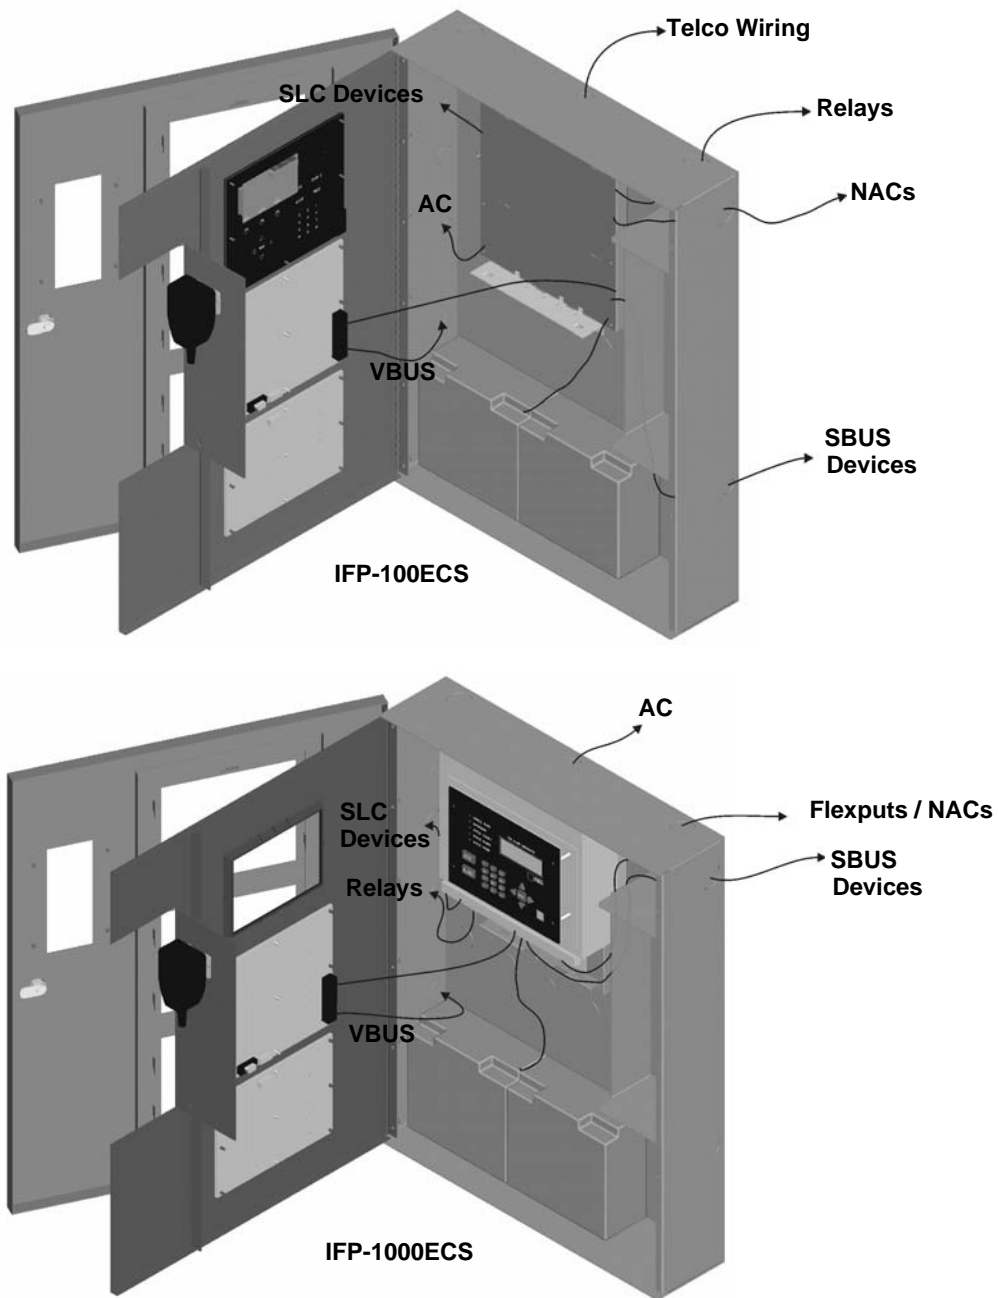
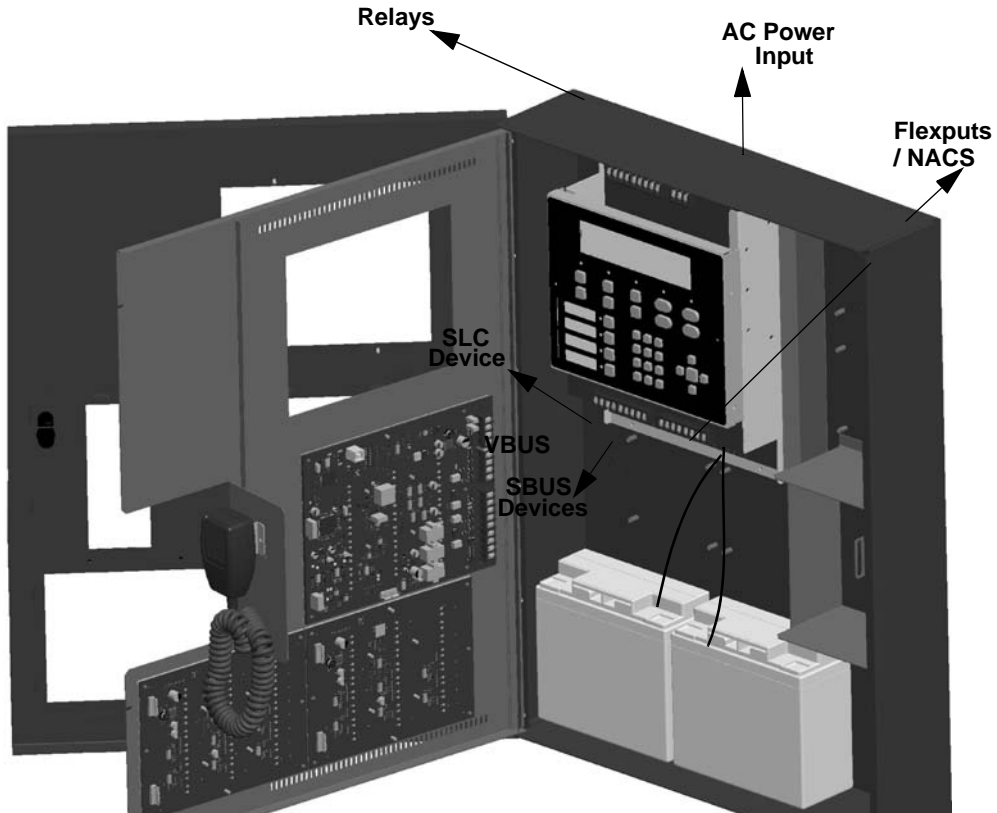

Figure 3-1 Wire Routing Example
Figure 3-2 IFP-2000ECS Wire Routing Example
- Route the wiring around the inside perimeter of the cabinet. It should not cross the circuit board where it could induce noise into the sensitive microelectronics or pick up unwanted RF noise from the high speed circuits. See Figure 3-1 and Figure 3-2 for an examples.